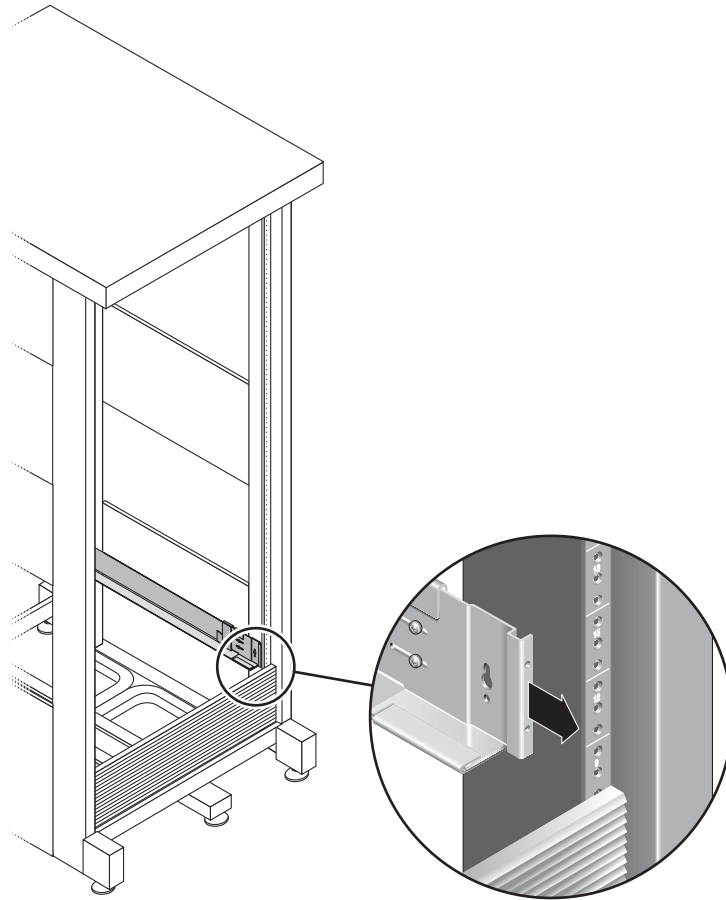

FIGURE 2-5 Adjusting the Length of the Left Rail at the Back of the Cabinet
6. At the back of the cabinet, adjust the length of each rail as needed to fit the cabinet, and position the rail flange over the vertical rail (FIGURE 2-5).